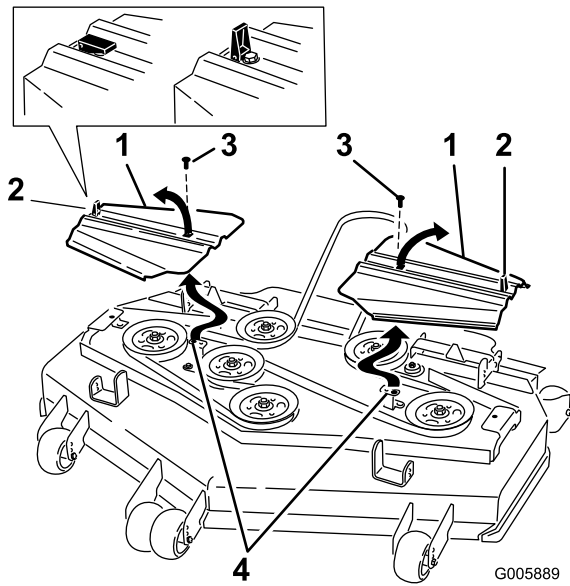

Figure 60
12. Install the belt covers with the tabs in the slots. Install the screws and close the latches (Figure 60).